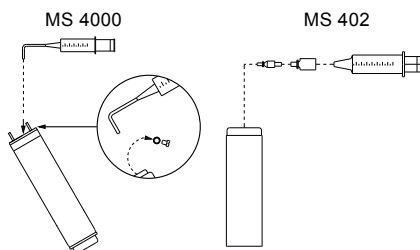

Fig. 3 Motor position during filling - MS 4000 and MS 402
1. Position the submersible motor as shown in fig. 3. The filling screw must be at the highest point of the motor.
3. Inject liquid into the motor with the filling syringe (fig. 3) until the liquid runs back out of the filling hole.